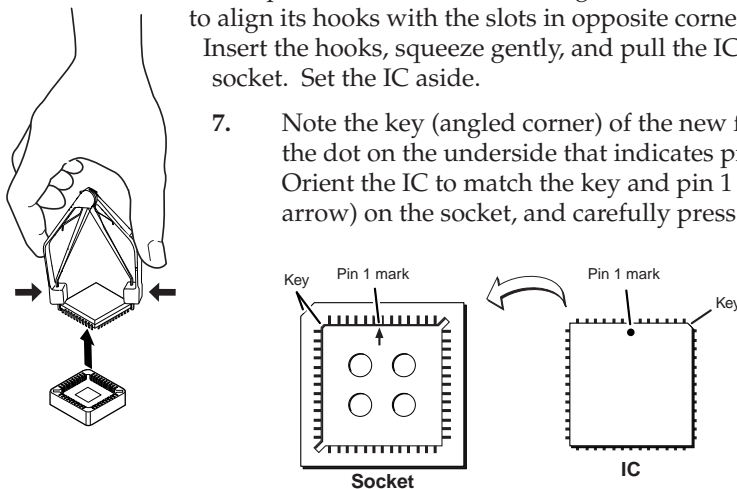

Figure B-4 — Key and pin 1 mark
7. Note the key (angled corner) of the new firmware IC and the dot on the underside that indicates pin 1 (figure B-4). Orient the IC to match the key and pin 1 (indicated by arrow) on the socket, and carefully press the IC in place.